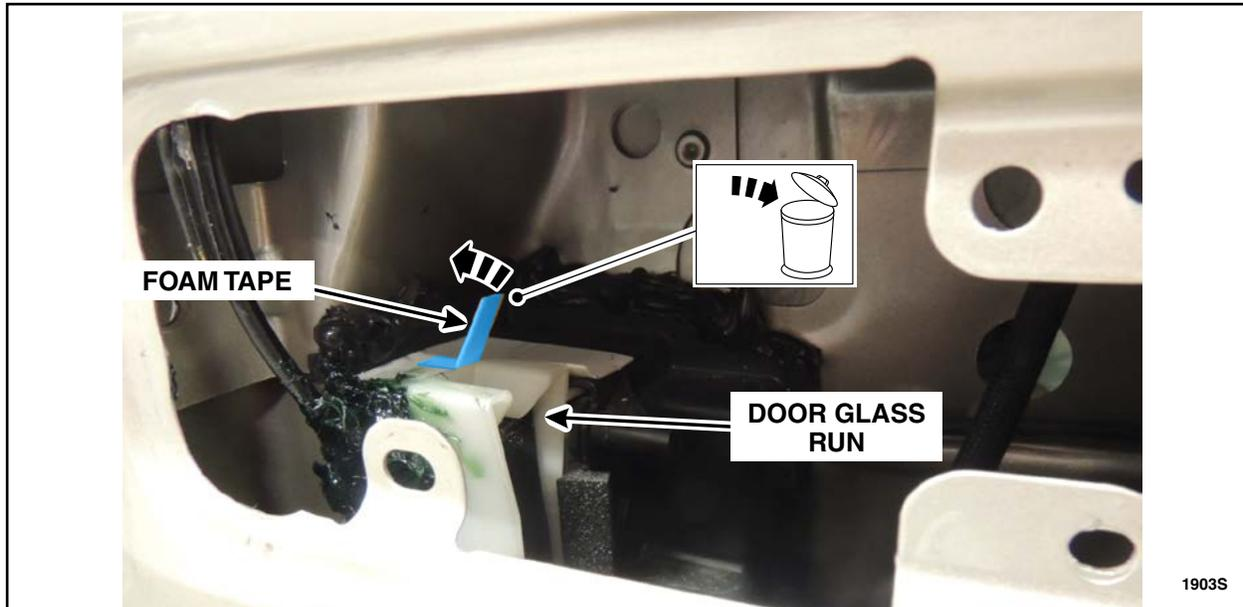

FIGURE 27
8. A piece of Foam Tape held the door glass run funnel to the door glass run, if not removed with the door glass run funnel, remove and discard the piece of Foam Tape from the top of the door glass run as shown in Figure 27.